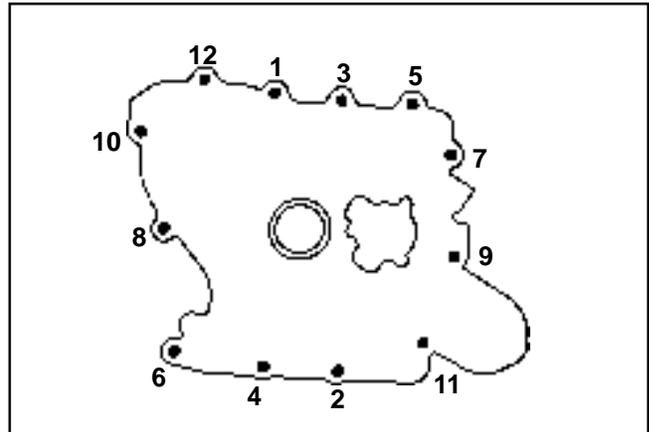

Figure 11-22. Oil Pan Fastener Torque Sequence.
4. Torque the fasteners, in the sequence shown in Figure 11-22 to 24.4 N-m (216 in. lb.).